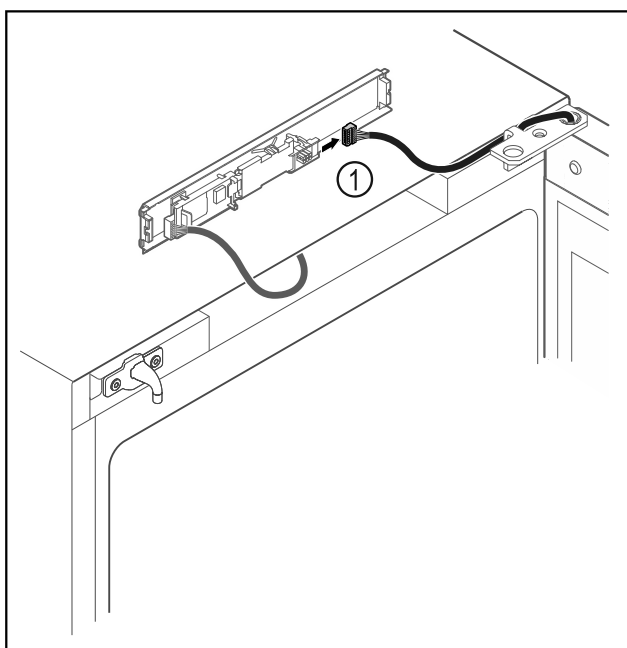

Fig. 12
- ▶ Disconnect the plug Fig. 12 (1) from the circuit board.